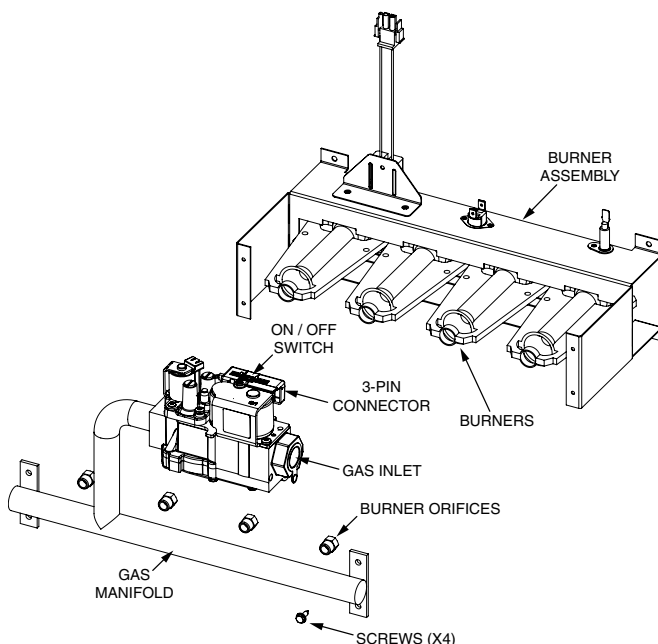

Figure 1. Burner & Manifold Assembly
5. Move the gas valve ON/OFF switch to the OFF position as shown in Figure 1.